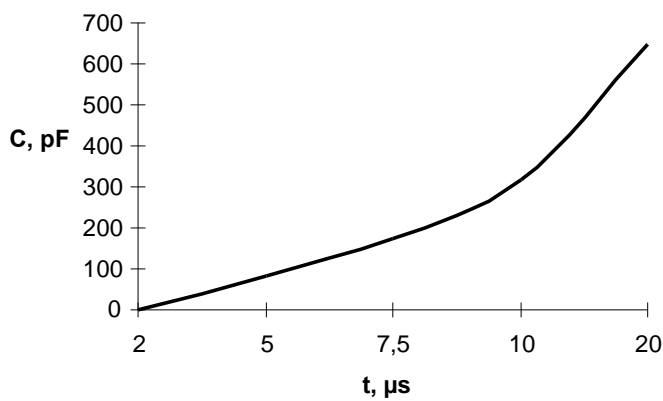

Figure 9 – Turn-on delay time of saturation voltage versus trimming capacitance C_b nominal
| Non-saturation protection operation delay time | t_{BLOCK1} | μ s | 2 | | | Set by consumer; ref. to Figure 9 |
Capacitor C_{b1}, C_{b2} – timing turn-off delay capacitor of corresponding controlled transistor at current overload. Protection operation delay is necessary to avoid the maloperation of short-time inductive kicks and of turn-on transient process. Thereby the delay duration will be equal to “rerun pulse” duration in case of emergency. To increase protection operation delay you are recommended to adjust the capacitors with nominal shown at Figure 9. Initially the capacitors of 100 pF capacitance are installed; it corresponds to delay time 5 μ s (typ.).
- set up protection operate delay time by capacitor Cb in compliance with Figure 9;